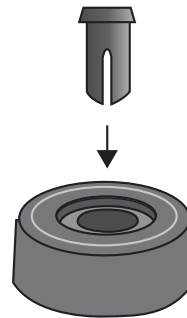

Figure 24. Inserting the Rivet Housing into the Bumper Foot
2. Insert a rivet housing into a bumper foot. Refer to Figure 24.